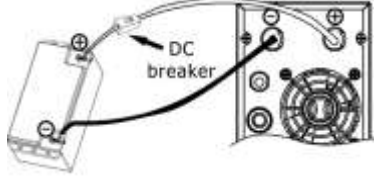

Fig. 1
Step 1 - Install a DC Breaker in a positive battery line. The rating of the DC Breaker must be according to the inverter's battery current (50 Amp). Keep the DC breaker off. **(see Fig. 1)**
1) Single battery connection(Refer to Fig. 1): When using a single battery, its voltage must be equal to the Nominal DC Voltage of the unit **(see below Table 1).**